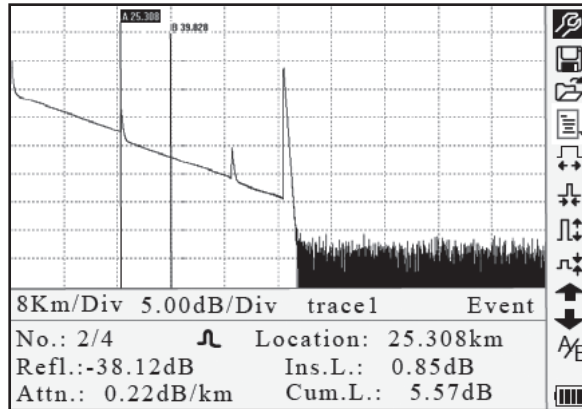
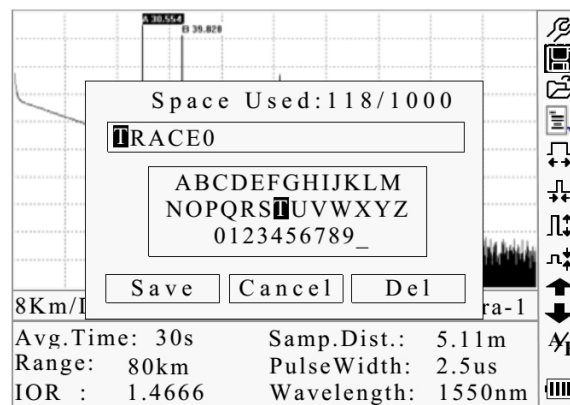
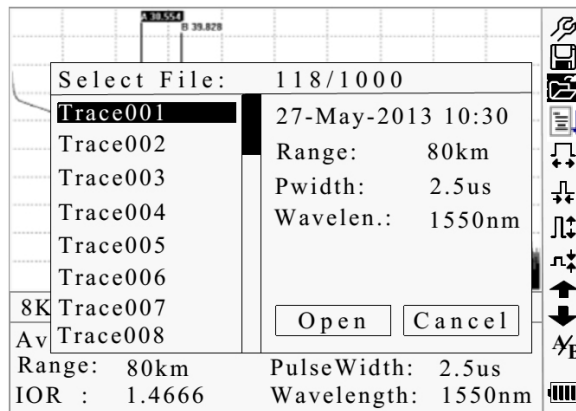

Figure 4-4. Trace Measurement
Figure 4-6. Save a Trace
Figure 4-7. Browse Saved Traces
Note: After a certain period of time, the trace displays on the GUI. The trace in the figure below is a trace during measurement, which will be refreshed for every certain period of time to demonstrate the whole process in realtime. But at the end of measurement the trace will be complete, as shown in Figure 4-4.
Under GUI (Figure 4-4) press **↩** and the items in the information window will display in this order: measurement parameters → analysis information → events list → marker A/B information → fiber information → measurement parameters.
Under GUI (Figure 4-4) press **↩** until the events list information appears in the information window.
Under GUI (Figure 4-4) use **▲** and **▼** to highlight **A/B**, and then press **Enter** to switch between marker A/B.
Under GUI (Figure 4-4) press **↩** to switch the information window to marker A/B information.
1. Under GUI (Figure 4-4) use **▲** and **▼** to highlight **↔**, and then press **Enter** to zoom out the trace horizontally.
Under GUI (Figure 4-4) use **▲** and **▼** to highlight **↔**, and then press **Enter** to zoom in the trace horizontally.
1. Under GUI (Figure 4-4) use ▲ and ▼ to highlight ⌘⇧, and then press **Enter** to zoom out the trace vertically.
Under GUI (Figure 4-4) use ▲ and ▼ to highlight ⌘⇧, and then press **Enter** to zoom in the trace vertically.
1. Under GUI (Figure 4-4) use ▲ and ▼ to highlight , and then press **Enter** to enter (Figure 4-6).
1. Under GUI (Figure 4-4) use ▲ and ▼ to highlight , and then press **Enter** to confirm (Figure 4-7).